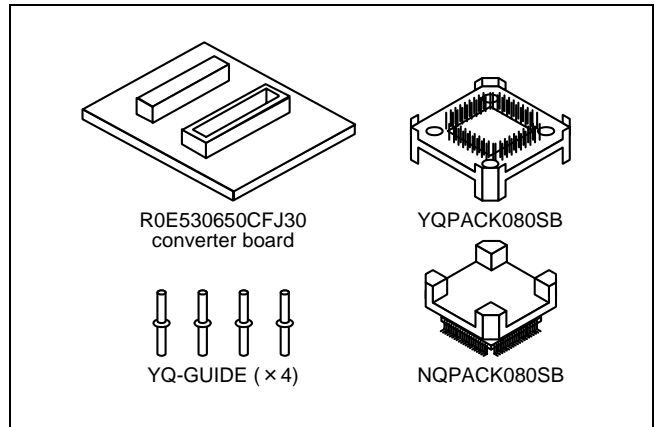

Figure 1 Package components of the R0E530650CFJ30
2. Package Components (See Figure 1)